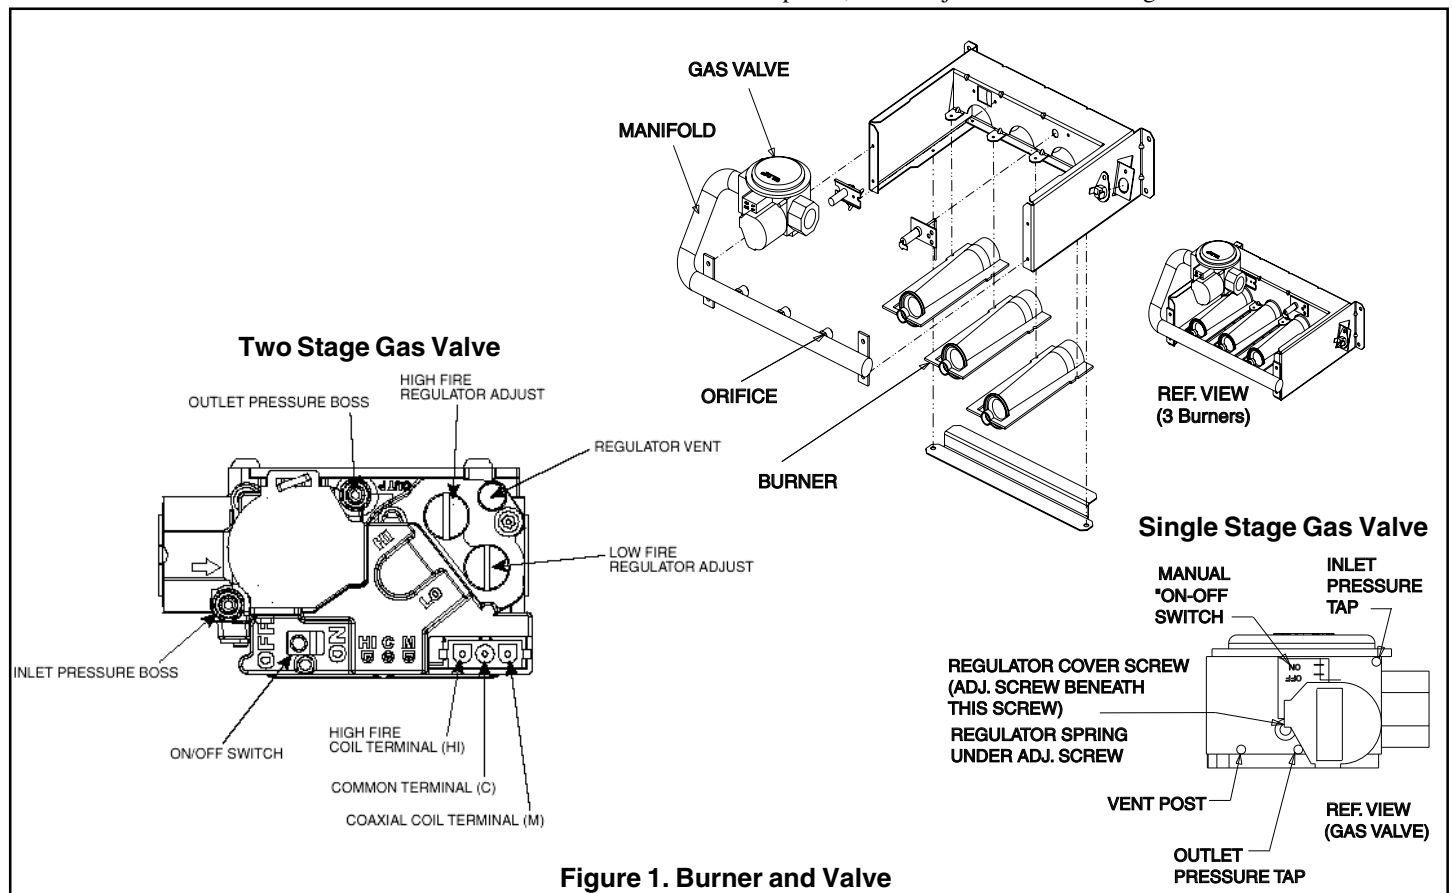

Figure 1. Burner and Valve
5. Remove the manifold from the burner bracket four (4) screws.
6. Remove the natural gas orifices from the manifold. See Figure 1.